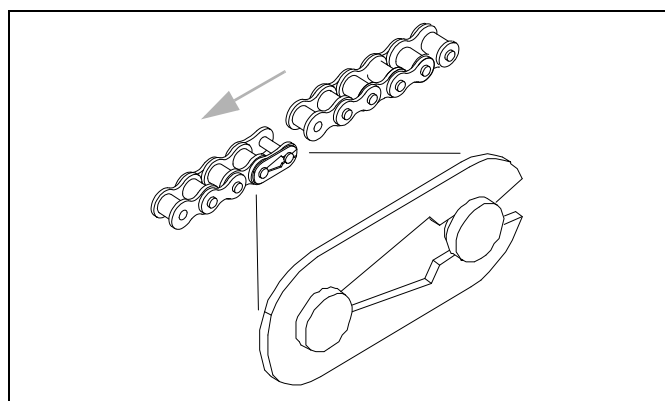

Figure 25:
Install chain from clutch output above, behind idler (254), to jackshaft input sprocket (247). Orient chain clip per Figure 25. Tighten idler when longest span of chain has 1/4 inch (6 mm) slack.
Route chain around jackshaft output sprocket, Small Seeds input sprocket and Small Seeds input idler. Make sure chain clip opening faces away from direction of chain travel, as shown in Figure 25 on page 17.
Route chain (176) around Small Seeds drive output sprocket (1) and meter drive input sprocket (2). Make sure chain clip opening faces away from direction of chain travel, as shown in *Figure 25* on page 17.